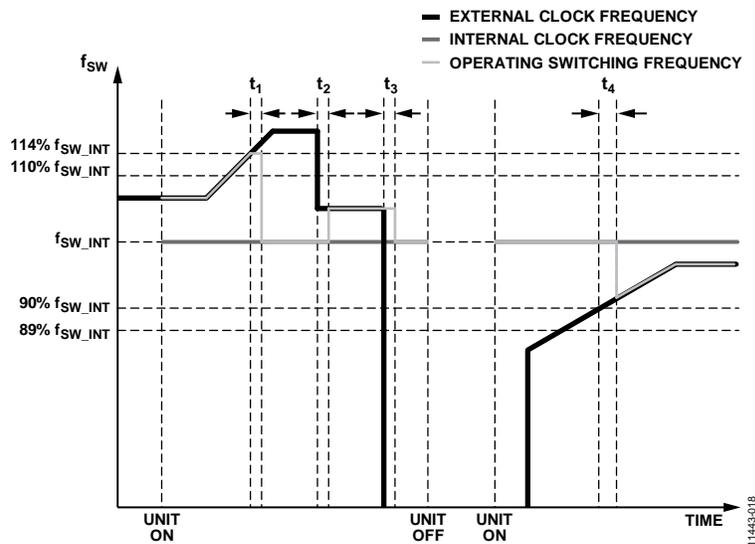

Figure 17. Synchronization Operation
2. If all the periods of the consecutive 64 most recent cycles of the external clocks fall within 90% to 110% of the internal switching clock period, the ADP1051 uses the latest current cycle as the synchronization reference, and the period of the external clock is identified. This interval is t_2 or t_4 , as shown in Figure 17. Otherwise, the ADP1051 discards this cycle and looks for the next cycle (frequency capture mode).
This interval is t_1 or t_3 , as shown in Figure 17.
Figure 17 shows the synchronous operation diagram. The internal frequency, f_{SW_INT} , is the internal free-running frequency of the ADP1051. Before the synchronization is locked, the ADP1051 runs at f_{SW_INT} . The external frequency, f_{SW_EXT} , is the frequency of the external clock that the ADP1051 needs to synchronize. After synchronization is locked, the ADP1051 runs at f_{SW_EXT} .